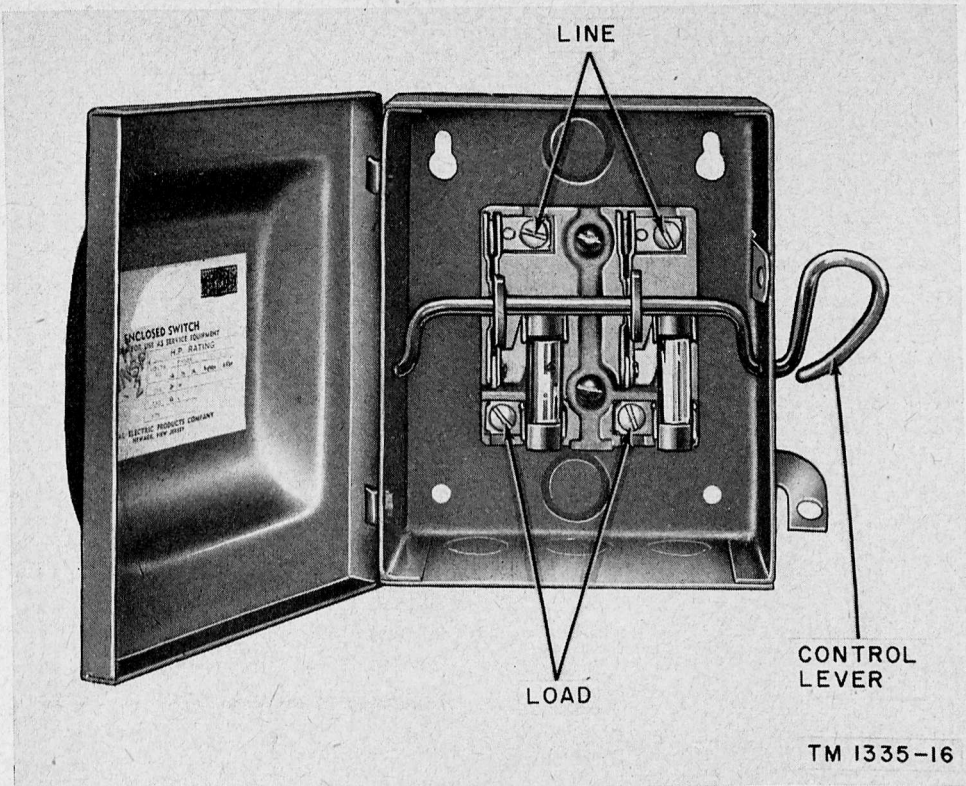

Figure 13. Switch Box SA-284/SPN-11, front view.
- (1) Switch box SA-284/SPN-11 (fig. 13) may be used on a ship line voltage of 115 or 230 volts, d-c or a-c. The switch box is connected in the ship supply line to the radar set motor generator, antenna heaters, antenna drive motor, and blower motor. The switch box contains a double-pole, heavy copper, knife switch and two cartridge fuse clips. The knife switch is operated by a control lever.